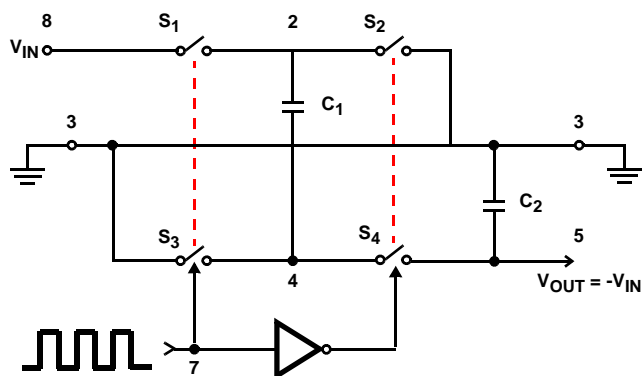
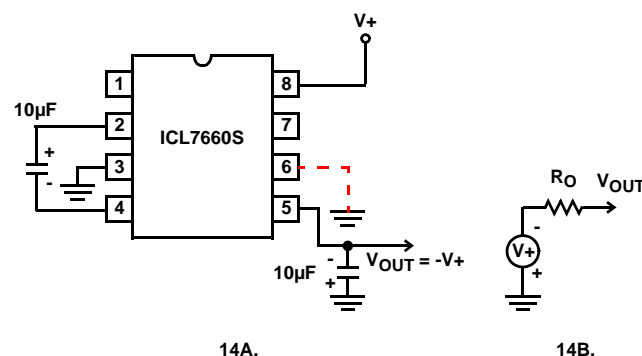
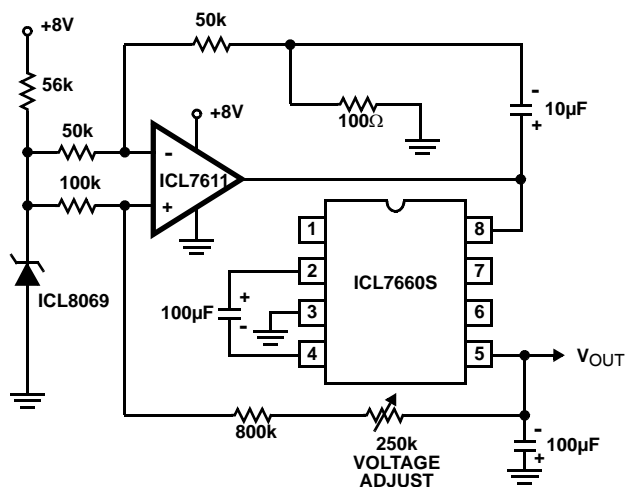

FIGURE 13. IDEALIZED NEGATIVE VOLTAGE CONVERTER
FIGURE 14. SIMPLE NEGATIVE CONVERTER AND ITS OUTPUT EQUIVALENT
FIGURE 20. REGULATING THE OUTPUT VOLTAGE
In the ICL7660S, the 4 switches of Figure 13 are MOS power switches;  $S_1$  is a P-Channel devices and  $S_2$ ,  $S_3$  and  $S_4$  are N-Channel devices. The main difficulty with this
where  $V_1$  and  $V_2$  are the voltages on  $C_1$  during the pump and transfer cycles. If the impedances of  $C_1$  and  $C_2$  are relatively high at the pump frequency (refer to Figure 13) compared to the value of  $R_L$ , there will be substantial difference in the voltages  $V_1$  and  $V_2$ . Therefore it is not only desirable to make  $C_2$  as large as possible to eliminate output voltage ripple, but also to employ a correspondingly large value for  $C_1$  in order to achieve maximum efficiency of operation.
The majority of applications will undoubtedly utilize the ICL7660S for generation of negative supply voltages. Figure 14 shows typical connections to provide a negative supply where a positive supply of +1.5V to +12V is available. Keep in mind that pin 6 (LV) is tied to the supply negative (GND) for supply voltage below 3.5V.
The output characteristics of the circuit in Figure 14 can be approximated by an ideal voltage source in series with a resistance as shown in Figure 14B. The voltage source has a value of  $-(V^+)$ . The output impedance ( $R_O$ ) is a function of the ON resistance of the internal MOS switches (shown in Figure 13), the switching frequency, the value of  $C_1$  and  $C_2$ , and the ESR (equivalent series resistance) of  $C_1$  and  $C_2$ . A good first order approximation for  $R_O$  is:
The ICL7660S may be employed to achieve positive voltage doubling using the circuit shown in Figure 20. In this application, the pump inverter switches of the ICL7660S are used to charge  $C_1$  to a voltage level of  $V_+ - V_F$  (where  $V_+$  is the supply voltage and  $V_F$  is the forward voltage on  $C_1$  plus the supply voltage ( $V_+$ ) is applied through diode  $D_2$  to capacitor  $C_2$ . The voltage thus created on  $C_2$  becomes  $(2V_+) - (2V_F)$  or twice the supply voltage minus the combined forward voltage drops of diodes  $D_1$  and  $D_2$ .
Figure 21 combines the functions shown in Figure 14 and Figure 20 to provide negative voltage conversion and positive voltage doubling simultaneously. This approach would be, for example, suitable for generating +9V and -5V from an existing +5V supply. In this instance capacitors  $C_1$  and  $C_3$  perform the pump and reservoir functions respectively for the generation of the negative voltage, while capacitors  $C_2$  and  $C_4$  are pump and reservoir respectively for the doubled positive voltage. There is a penalty in this configuration which combines both functions, however, in that the source impedances of the generated supplies will be somewhat higher due to the finite impedance of the common charge pump driver at pin 2 of the device.